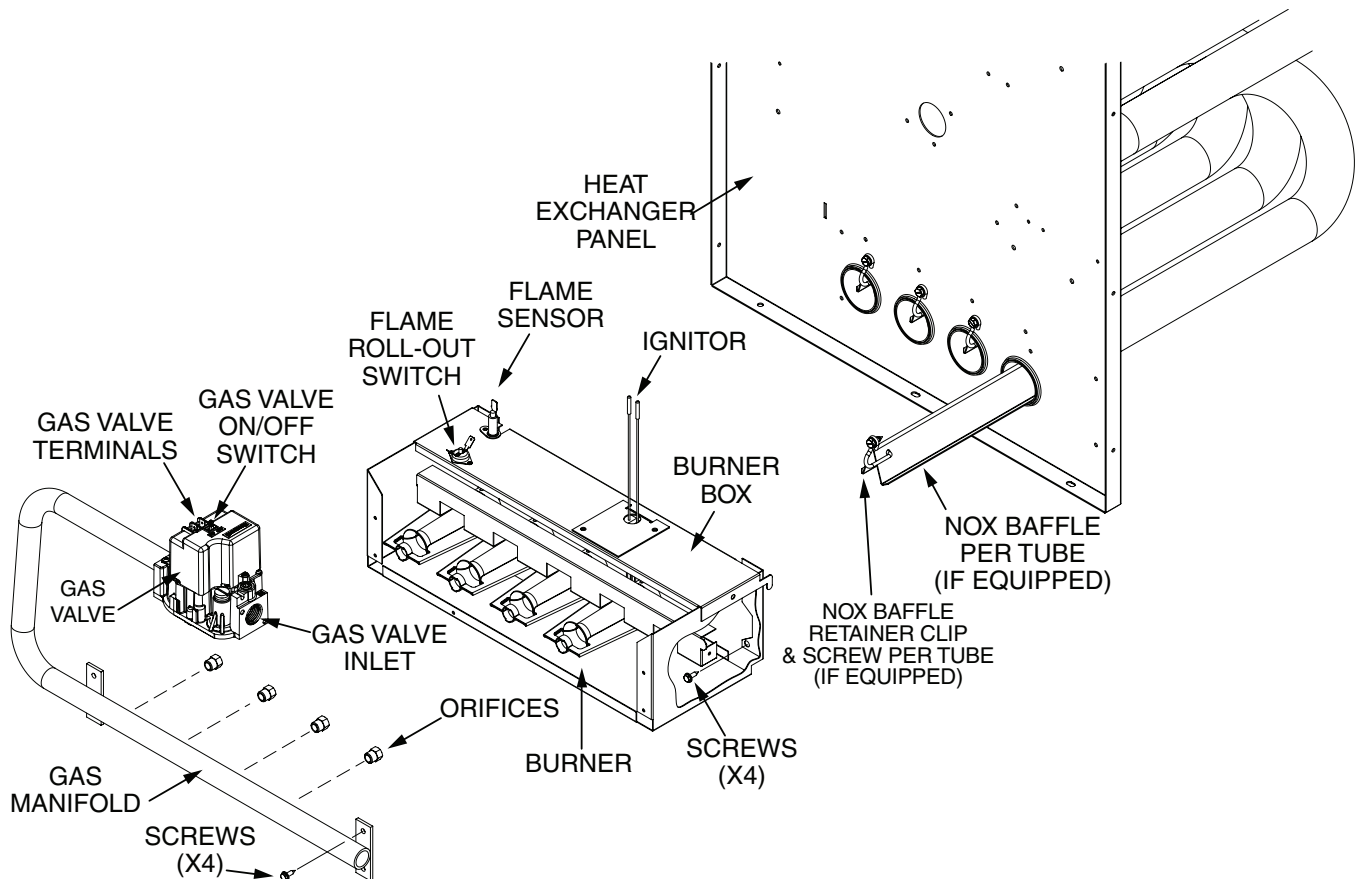

Figure 1. Burner & Manifold Assembly
5. Move the gas valve ON/OFF switch to the OFF position. See Figure 1 (page 3). **NOTE:** For VR8205Q2381 gas valves, turn the knob to the OFF position.
Carefully remove the four screws inside the burner box (2 at each end), securing the complete burner box assembly to the heat exchanger panel while ensuring not to damage the ignitor. See Figure 1.